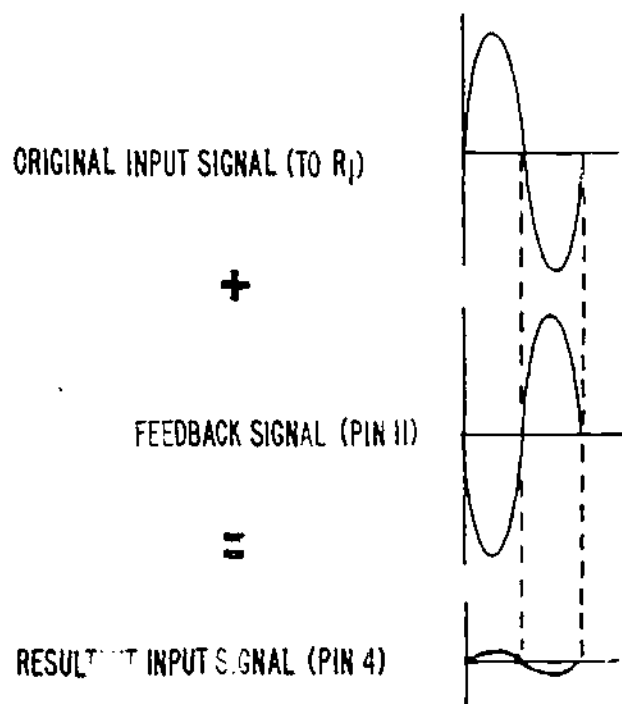

Figure 10
- ⑩ The net result of combining the input and feedback signals is shown in Figure 10.